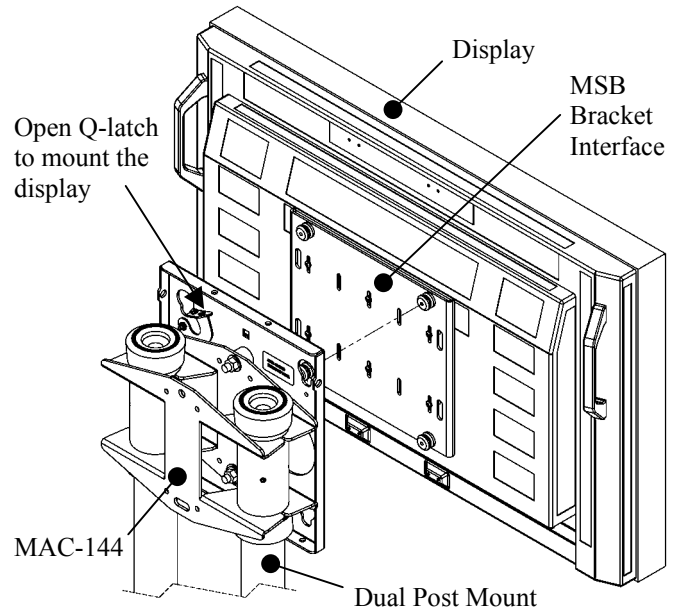

Figure 4. Mount the Display
1. Following the instructions for mounting the MSB interface bracket of your specific plasma display panel, install the mounting bracket on your plasma display panel (see Figure 4).
NOTE: Make sure power is not supplied (turned off) to the display and the Q-latch is in the unlocked (open) position before attempting to mount the display (see Figure 4 and Figure 6).